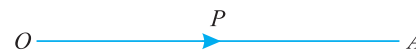

Fig. 1.2. Vector  $\vec{OA}$
1. **Representation of a vector.** A vector is represented by a directed line as shown in Fig. 1.2. It may be noted that the length  $OA$  represents the magnitude of the vector  $\vec{OA}$ . The direction of the vector  $\vec{OA}$  is from  $O$  (i.e., starting point) to  $A$  (i.e., end point). It is also known as vector  $P$ .